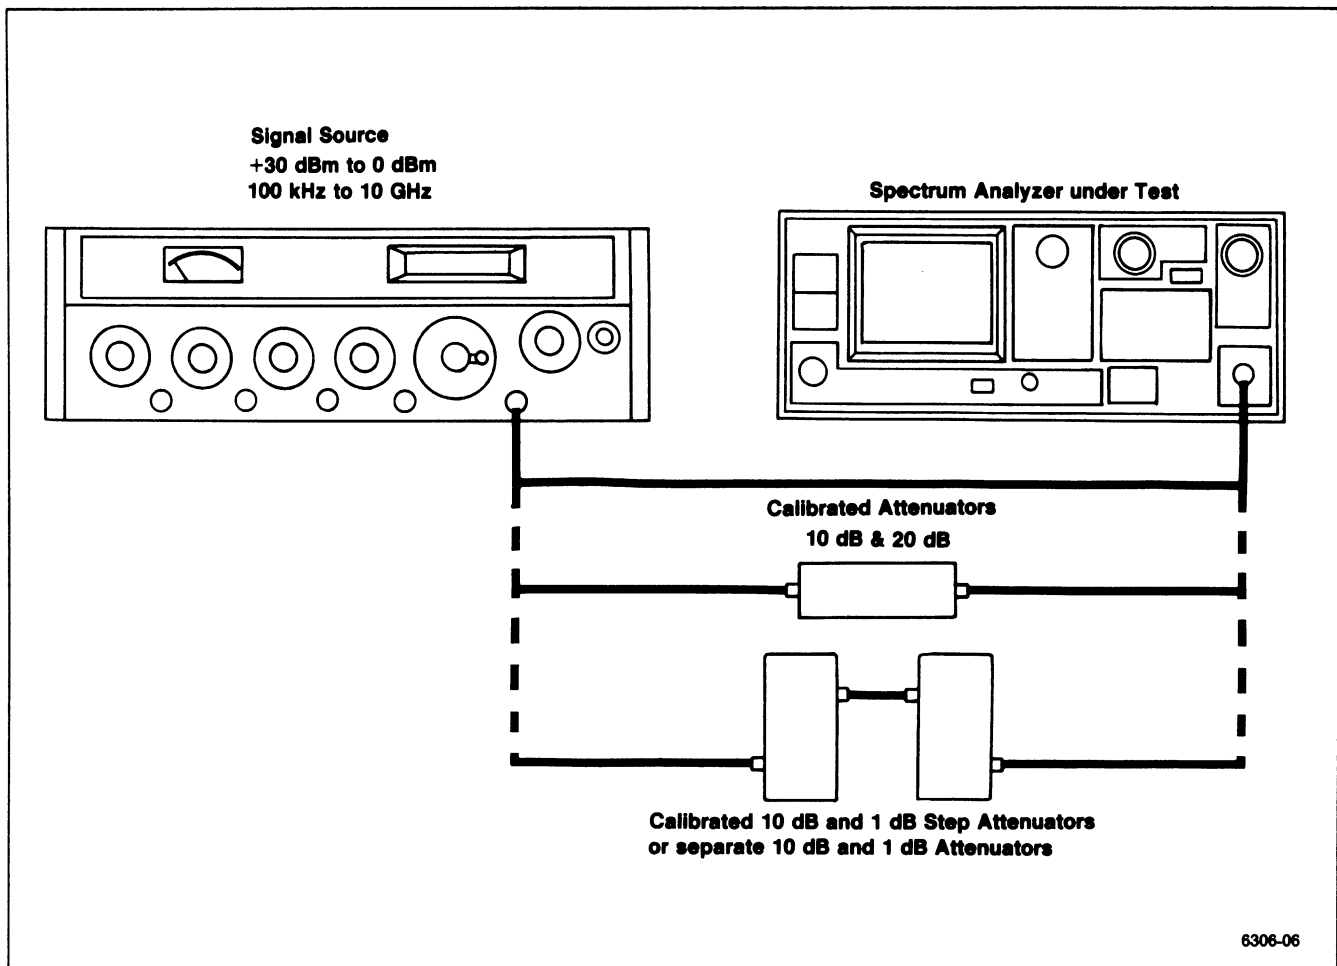

Figure 4-11. Test equipment setup for checking dynamic range and accuracy.
a. Connect the test equipment as shown in Figure 4-11, using the 10 dB and 1 dB step attenuators. Set the Spectrum Analyzer controls as follows: